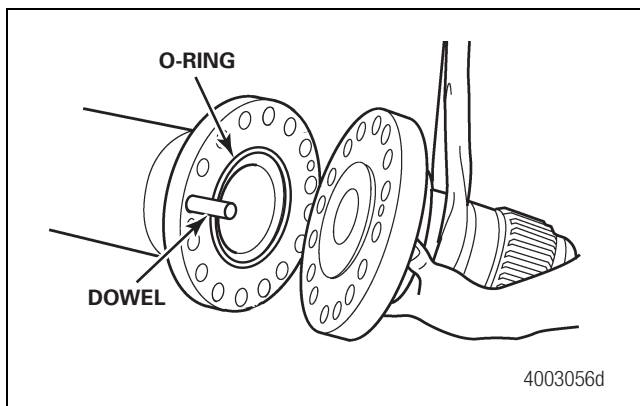

Figure 5.15
- Lubricate and install a new O-ring on the axle housing or spindle. Figure 5.15.
- Insert the dowels into the housing at the 3 and 9 o'clock position. The dowels will be used to align the spindle and brake assembly to the axle housing. Figure 5.15.
- Use a lifting device to support the spindle. Figure 5.15.
- Install the spindle over the stud and into mounting position on the axle housing. Figure 5.15.